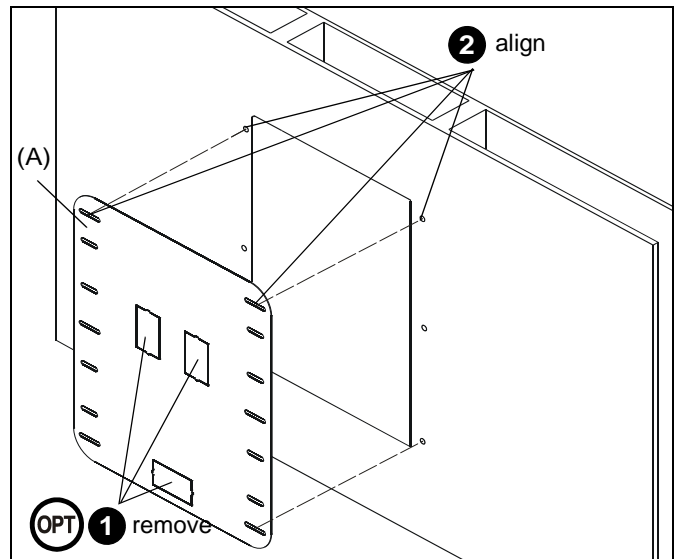

Figure 3
1. (Optional) Remove three removable cutouts on CM1TOCM7 adapter to allow for cable access to the wall. (See Figure 3)
2. Place CM1TOCM7 adapter over rectangular hole in wall previously occupied by CM1 mount. Align upper and lower holes in adapter with the upper and lower holes on wall used to attach CM1 mount. (See Figure 3)